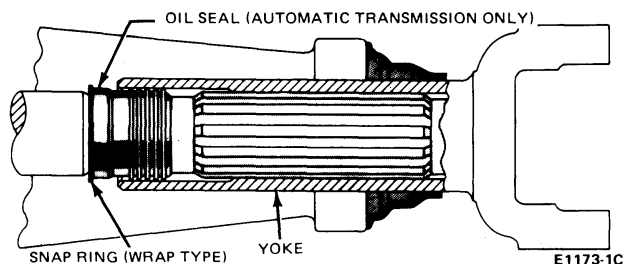

FIG. 6 Output Shaft Spline Seals
1. If either the rubber seal on the output shaft or the seal in the end of the transmission extension housing is damaged in any manner, replace the seal or seals as required (Fig. 6—automatic transmission only). Also if the lugs on the axle pinion flange are shaved or distorted so that the bearings slide, replace the flange.
2. Lubricate the yoke spline with ESA-M1C75-B lubricant or equivalent. This spline is sealed so that the transmission fluid does not wash away the spline lubricant (Fig. 6—automatic transmission only). Remove the tool from the extension housing. Install the yoke on the transmission output shaft. Do not allow the yoke assembly to bottom on the output shaft with excessive force.